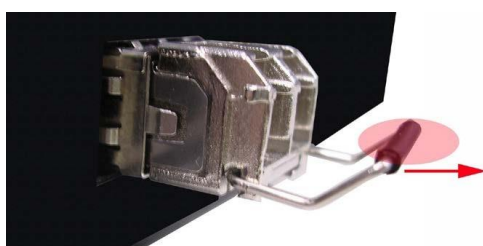

Figure 2.11 - Pull Out from the SFP Module
2. Push down the metal clasp and pull the transceiver out by the plastic part as shown below in *Figure 2.11*.